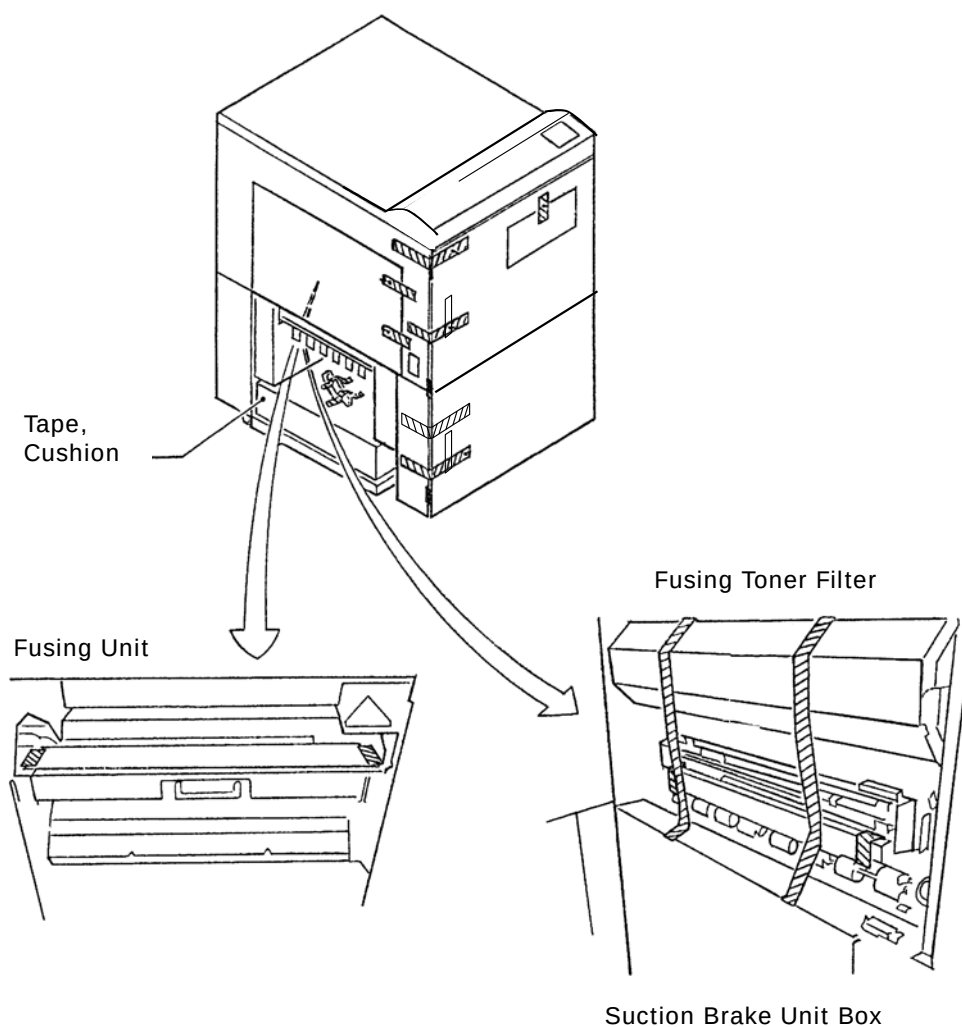

Figure 2-7
8. Open the left door as shown in Figure 2-7.
9. Open the fuser lamp assembly (2) screws.
10. Remove the shipping cushion on the fuser glass as shown in Figure 2-7.
11. Remove the tape holding the Fuser Toner Filter and Exit Rollers (Figure 2-7).